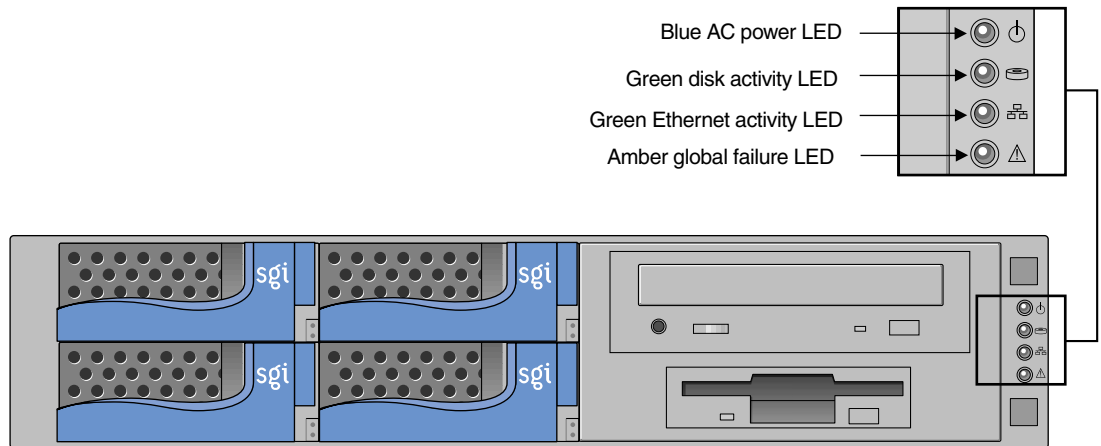

Figure 1 SGI 1200 Front View With Cover Removed
3. Remove the drive protection card (if present) from the diskette drive. Figure 1 shows the drive locations on the front of the server (plastic front cover removed).
Verify that the power-on LED (illustrated in Figure 1 on page 3) on the front panel is lit. A complete description of these LEDs is provided in the server's *User's Guide*.